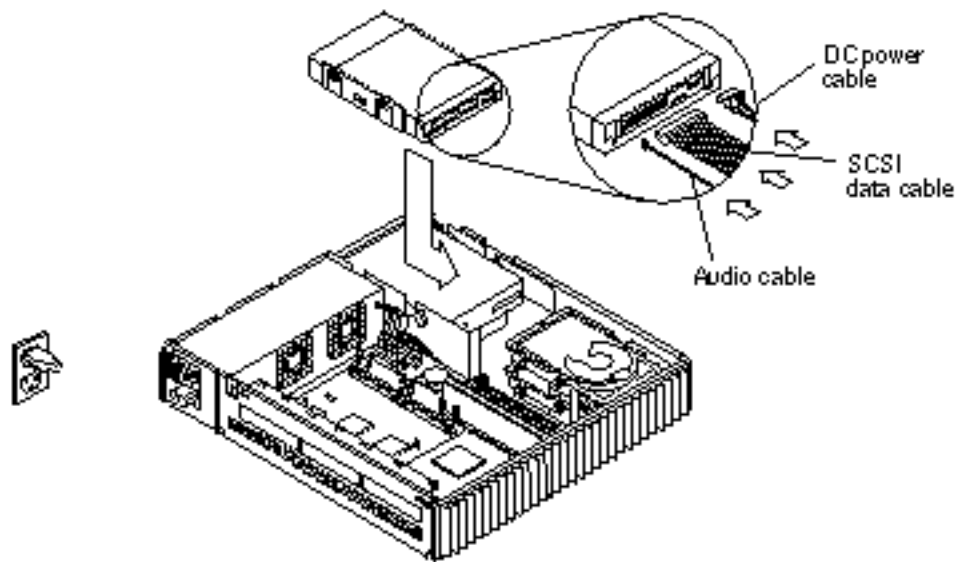

Figure 9-6 Replacing the CD-ROM Drive
3. **Install the drive as shown in Figure 9-6.**
See Figure 9-6.